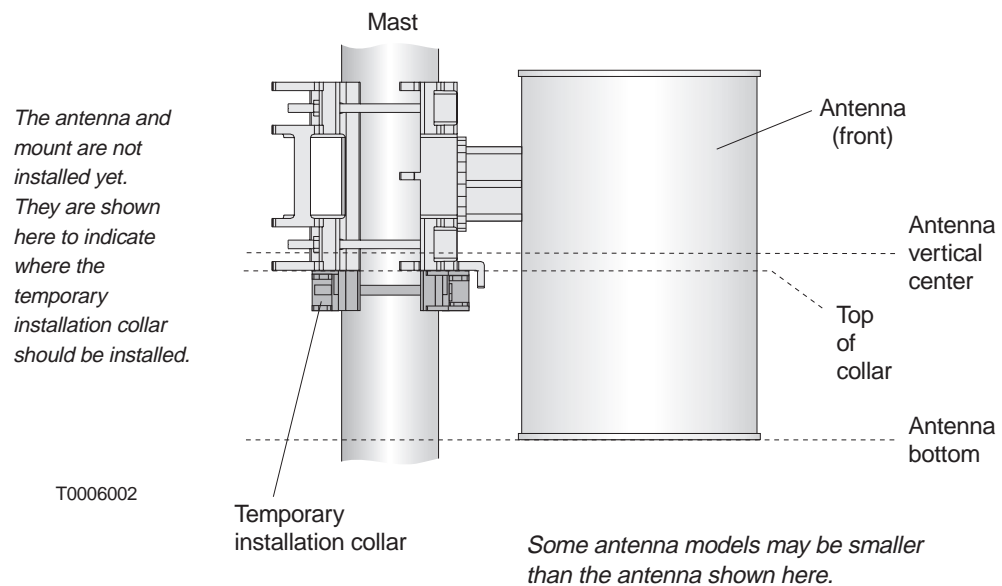

Figure 4-7 Collar height relative to desired antenna height
b. Refer to figure 4-7 for the collar position relative to the installed antenna position.
As shown in figure 4-7, when the antenna is installed (later), the top of the collar is below the antenna center and above the bottom of the antenna.